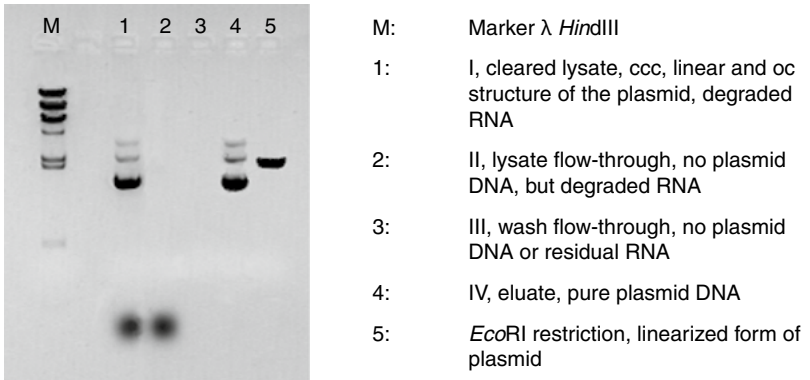

Figure 6 Exemplary analytical check of NucleoBond® Xtra Midi purification samples
The exemplary gel picture (Figure 6) will help you to address the specific questions outlined in the following section more quickly and efficiently.
- Check plasmid content in the cleared lysate (see Figure 6). Use colonies from fresh plates for inoculation and add fresh selective antibiotic to plates and media.
- Too much cell mass was used. Refer to section 4.5–4.8 regarding recommended culture volumes and lysis buffer volumes. Check plasmid content in the cleared lysate (see Figure 6).
- Check plasmid content in the wash fractions (see Figure 6). Keep all buffers tightly closed. Check and adjust pH of Buffer EQU (pH 6.5), WASH (pH 7.0), and ELU (pH 9.0) with HCl or NaOH if necessary.
RNA contamination of plasmid DNA	<p data-bbox="300 209 598 228">RNase digestion was inefficient</p> <ul data-bbox="300 248 972 300" style="list-style-type: none"> <li data-bbox="300 248 972 300">• RNase was not added to Buffer RES or stored improperly. Add new RNase to Buffer RES. See section 8.2 for ordering information. <p data-bbox="300 320 759 339">pH or salt concentration of wash buffer is too low</p> <ul data-bbox="300 360 972 496" style="list-style-type: none"> <li data-bbox="300 360 972 432">• Check RNA content in the wash fractions (see Figure 6). Keep all buffers tightly closed. Check pH of Buffer EQU (pH 6.5) and WASH (pH 7.0) and adjust with HCl or NaOH if necessary. <li data-bbox="300 453 972 496">• Increase wash buffer stringency by adjusting pH of Buffer WASH to 7.5.